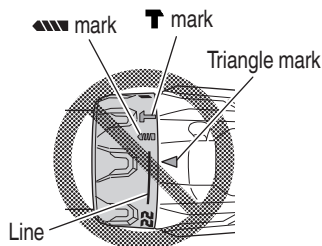

Fig. 14
- Do not use with the clutch dial number at "22" and the line at the middle of the drill mark. Doing so may cause damage. (See Fig. 14)